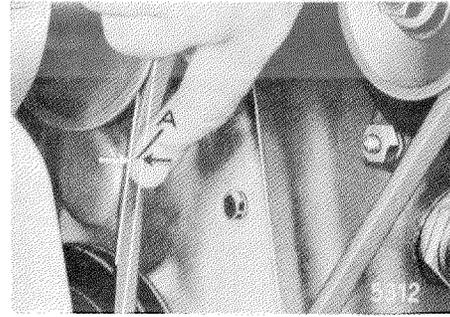

Figure 20-15/3
The tension of the V-belt is correct if the V-belt can be pressed in approx. 10 to 15 mm between the two belt pulleys by moderate pressure (see Figure 20-15/3). Tighten the fixing screws (2) (see Figure 20-15/1).
1. Drive out the centering ring (1) toward the front with hammer punches to the fan bearing bracket (10) (see Figure 20-15/4).
2. Unscrew the hex nut (2) and remove the Woodruff key (3).
3. Pull the fan bearing bracket (10) out of the fan hub (6).
9. Put the mounting bar (11) over the left-hand fixing stud and fix it with a lock washer, a standard hex nut (1) and a hexagon screw (13) (see Figure 20-15/1).